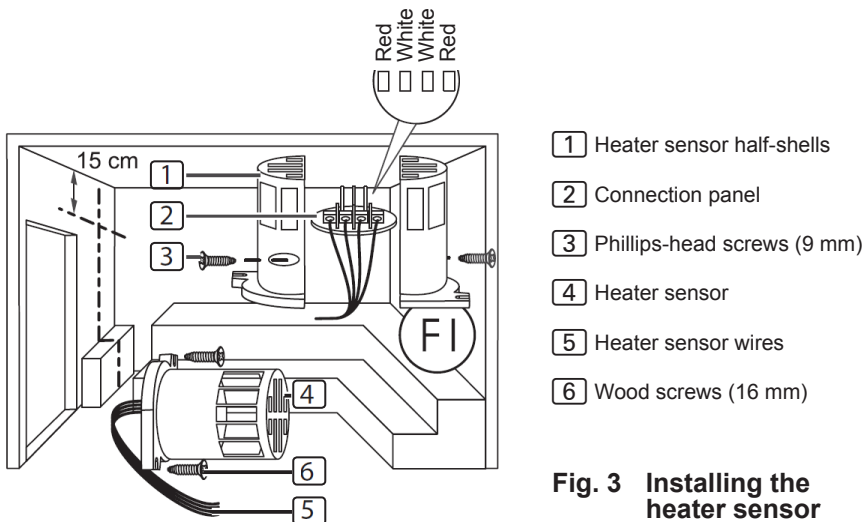

Fig. 3 Installing the heater sensor
To install the heater sensor, perform the following steps (see **Fig. 3**):
3. Connect the four connectors for the heater sensor wire [5] in accordance with the **Fig. 3**.
4. Place the connection panel [2] crossways (as shown in **Fig. 3**) in the heater sensor half-shells.